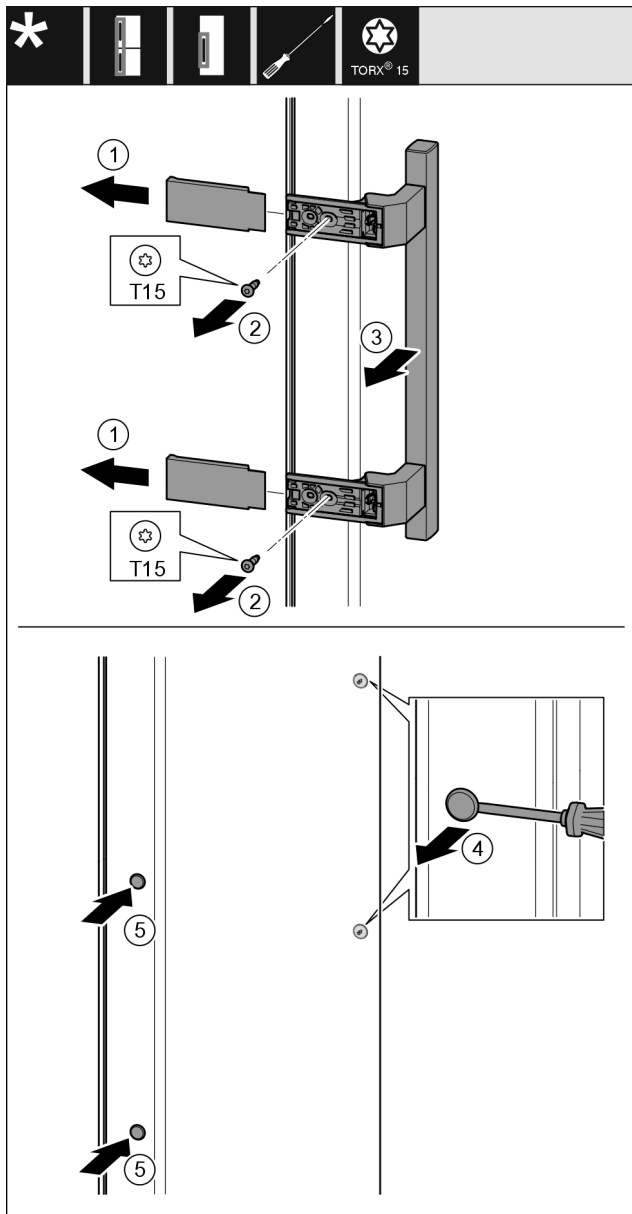

Fig. 8
- ▶ Pull off the cover. Fig. 8 (1)
- ▶ Unscrew the screws using a Torx 15 screwdriver. Fig. 8 (2)
- ▶ Remove the handle. Fig. 8 (3)
- ▶ Carefully lift the side plug with a slotted screwdriver and pull it out. Fig. 8 (4)
- ▶ Reinsert the plug on the other side. Fig. 8 (5)